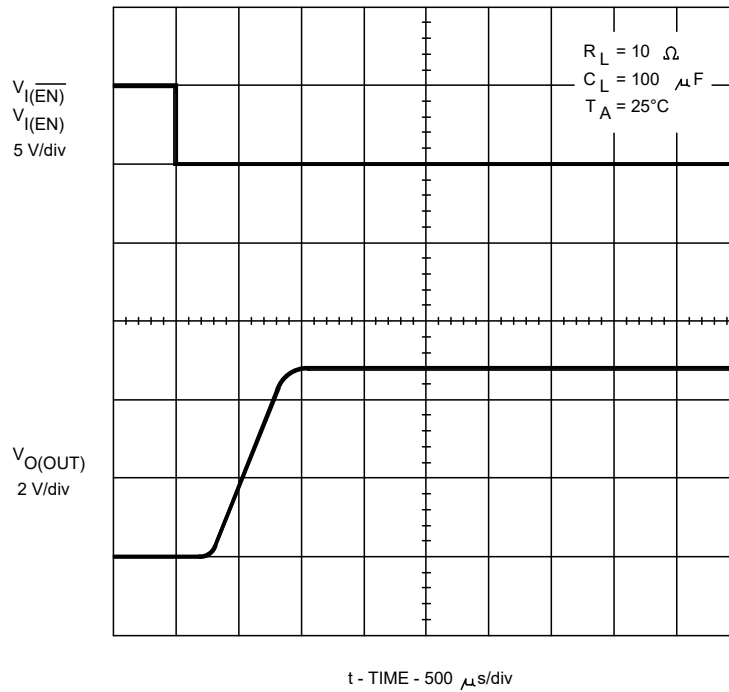

FIGURE 7. Turn-On delay and rise time with 100  $\mu F$  load.
3.5.7 Turn on delay and rise time with 100  $\mu$ F load. The turn on delay and rise time with 100  $\mu$ F load shall be as shown in figure 7.